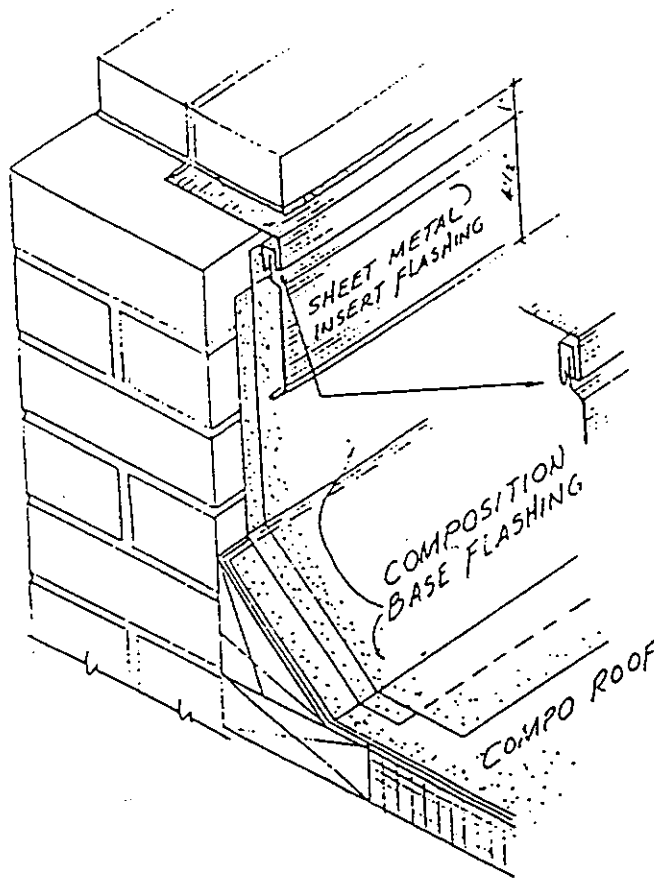

FIGURE 3\*
- C) "COUNTERFLASHING" IS A METAL STRIP EMBEDDED IN THE MASONRY ABOVE BASE FLASHING, AND BENT DOWN OVER THE TOP OF THE BASE FLASHING TO PREVENT WATER PENETRATION BEHIND IT. (SEE FIGURE 3).